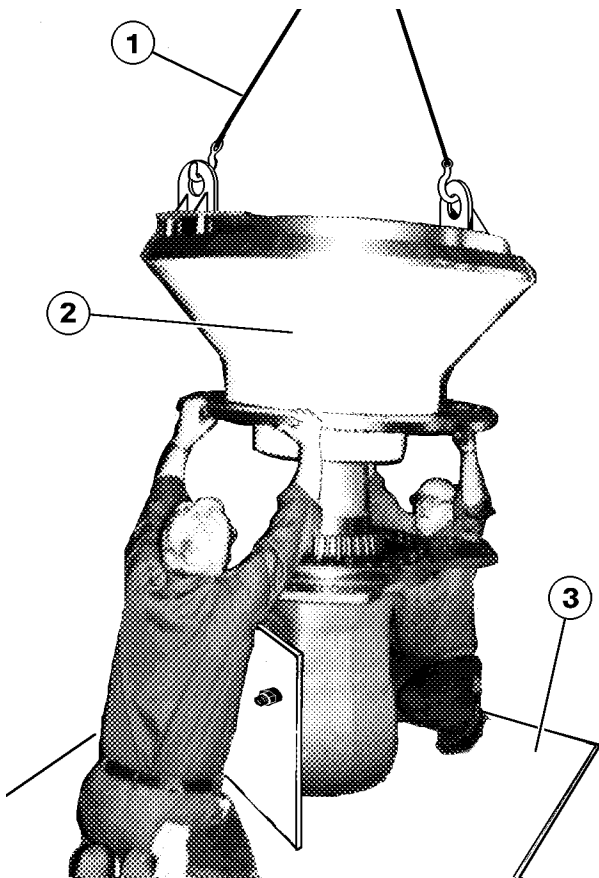

FIGURE 3-8. WHEEL HUB INSTALLATION
10. Check outer bearing cone (5) for free fit on the spindle (18).
11. Referring to Figure 3-8, lift the hub and carefully lower it down over the spindle. To help installation and to prevent damaging the seal, the spindle and hub should be level.
12. Install outboard bearing cone (5) onto spindle.
- If outer bearing cone (5) is "pinned" type, install pin (29) into slot on spindle (18) and install cone over pin (29).